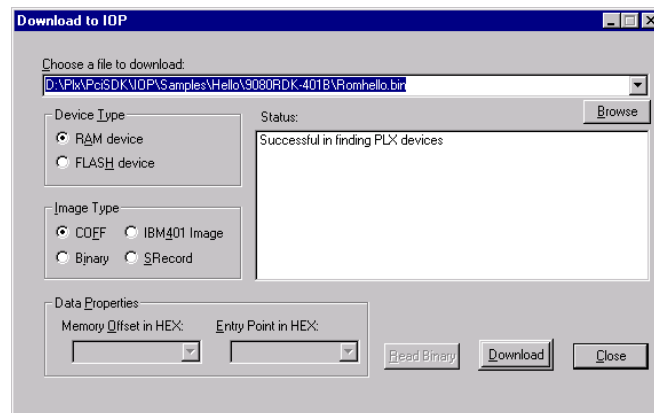

Figure 2-4 Download To IOP
- Click on download. You can verify that the program was successfully downloaded by reading the status screen (See Figure 2-4).